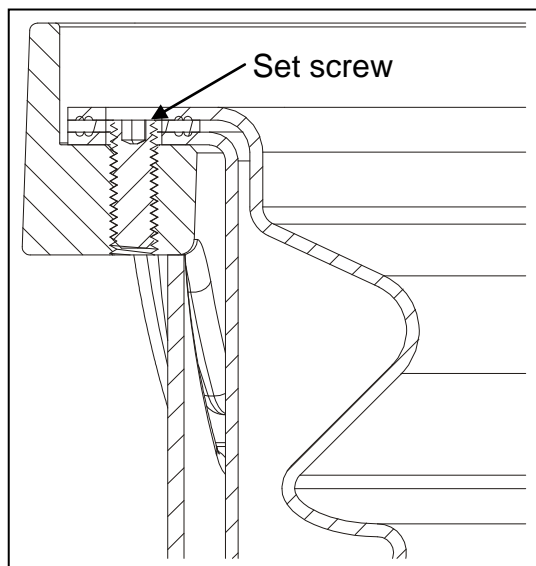

Figure 4
Step 1-3122 #2: (See Figure 4)
Step 10: (See Figure 4)